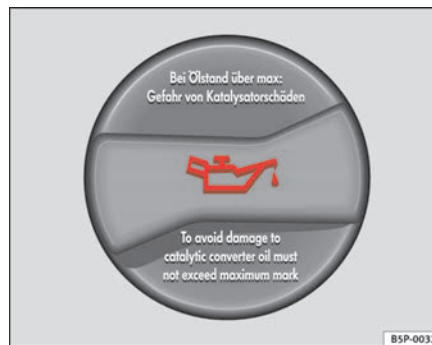

Fig. 158 In the engine compartment: Engine oil filler cap
- Unscrew cap from oil filler opening ⇒ fig. 158.